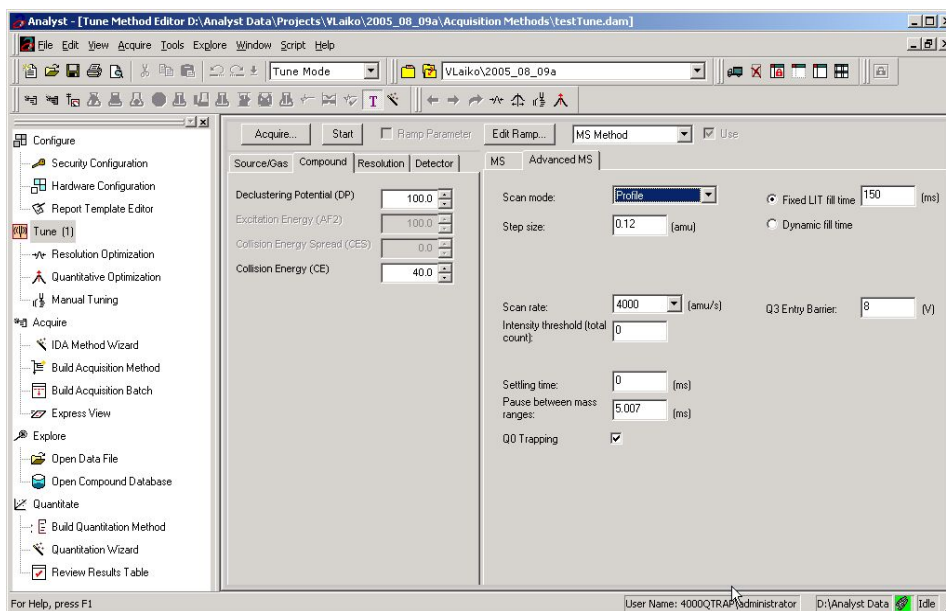

Fig. 7-21 Good parameters for AP/MALDI measurements.
- Highlight Mass Spec in the Acquisition tab. Set the acquisition parameters in MS and Advanced MS tabs (see Figs. 7-29 as examples) for the values tuned in Manual Tune mode, see Figs. 7-21 and 7-23.